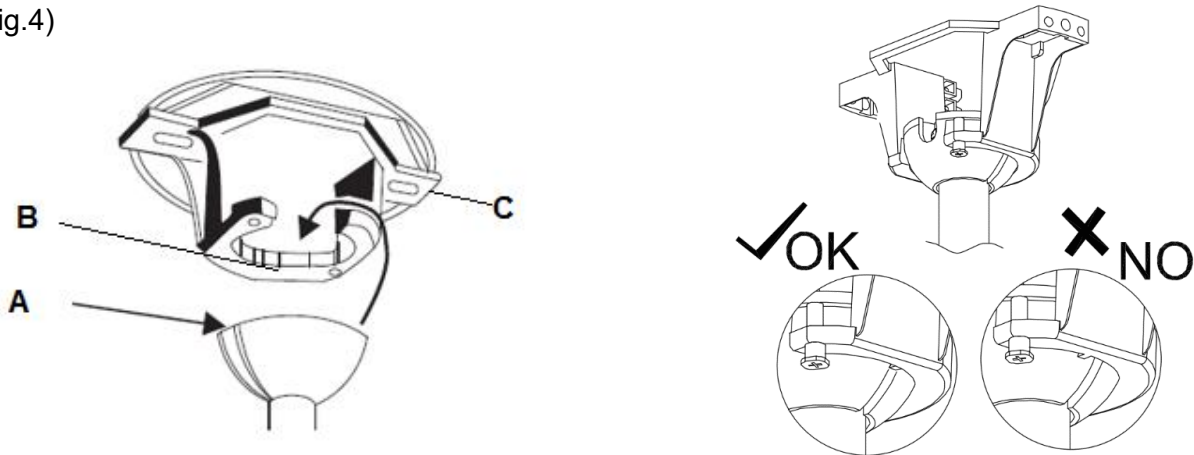

Fig. 4
Lift the fan assembly onto the mounting bracket. Ensure the registration slot (A) of the hanger ball is positioned on the stopper (B) of the mounting bracket (C) to prevent the fan from rotating when in operation. (Fig.4)
Hang the fan (Refer to “hanging the fan” Fig. 4, page 5).